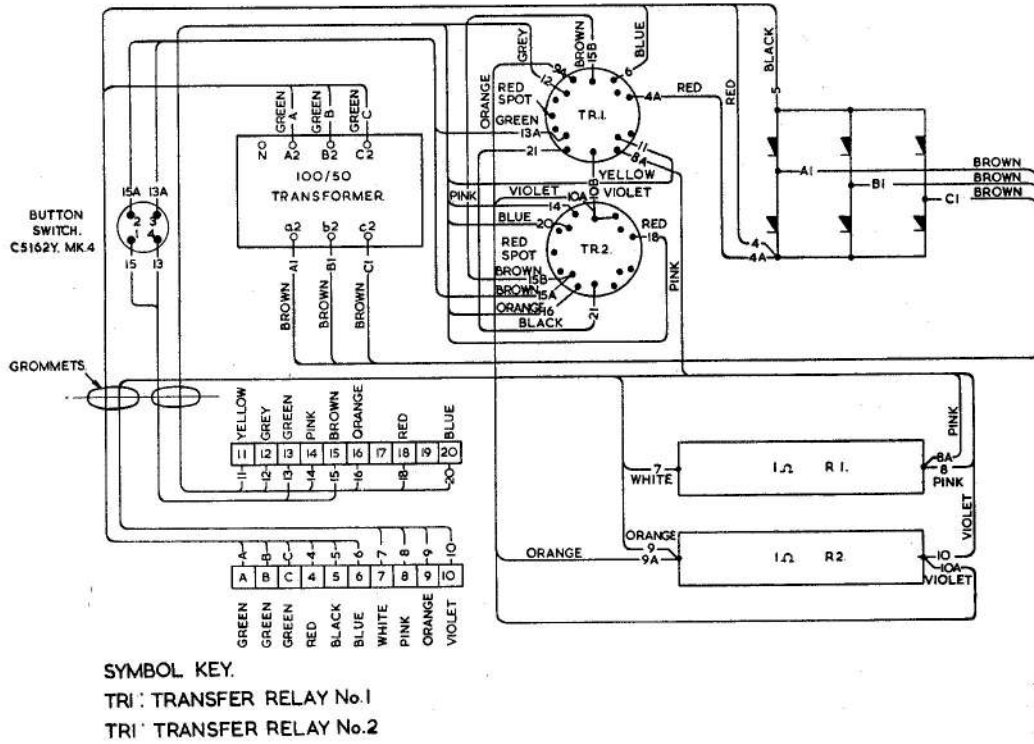

Fig. 3. Schematic wiring diagram
4. Relay TR1 in fig. 3 is energized by a signal from the Type AE7002 control panel. It has four pairs of contacts. Contacts TRI-2 and TRI-3 (normally open), when closed these switch the Type AE7511 magnetic amplifier regulator on to the a.c. generator exciter field terminals, and also on to resistors R1 and R2. Contact TR1-1 (normally open), when closed, energizes the operating coil of relay TR2. Contact TR1-4 (normally closed), when open inserts a resistance in series with the carbon pile operating coil in order to reduce the carbon pile resistance to a minimum, as it remains in circuit during generator control by the magnetic amplifier regulator.
5. Relay TR2 in fig. 3 operates three pairs of contacts, TR2-1 contact (normally open), when closed maintains the operating voltage (under normal generator line voltage conditions) on the TR1 coil. Contact TR2-2 is normally closed, in this position it provides a signal to disconnect the radar from the generator by means of the radar master control. TR2-3, contact normally open, when closed increases the generator exciter bias field current, during operation on the magnetic amplifier regulator.
6. The transformer rectifier unit in fig. 3 consists of 3-phase transformer and full-wave